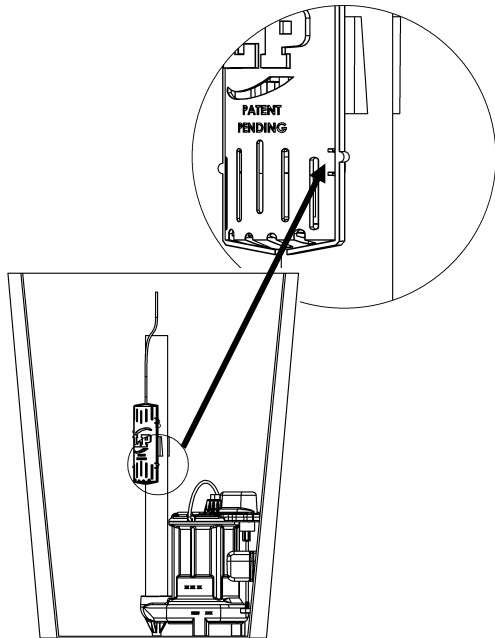

Figure 5
This switch is a self contained unit. The internal float may not be visible from the outside of the switch housing. The switch should be placed such that the activation point (**Figure 5**) is slightly higher than the pump activation point.
- 2) When the water level reaches the lowest mark on the side of the float housing, the alarm will activate. (**Figure 5**)